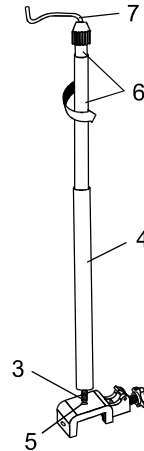

Fig. 7
3. Thread screw (3) in the bottom of the hang bar rod (4) into the appropriate mounting hole (5) in the C-clamp (Fig. 7).